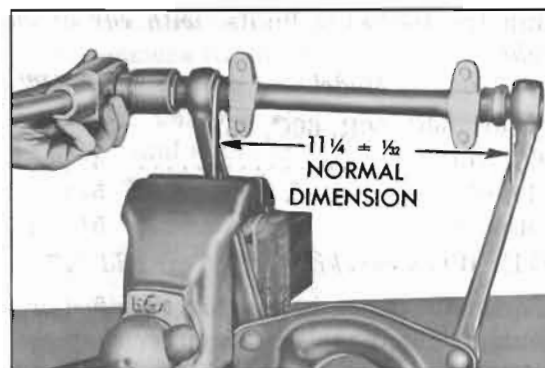

Figure 7-14—Installing First Bushing
3. Check the distance between inner ends of control arm. The normal dimension is  $11\frac{1}{4}$ " plus or minus  $\frac{1}{32}$ ", from inside to inside. See figure 7-14.
head is tight against arm and tighten to a minimum of 150 ft. lbs. torque. See figure 7-14.